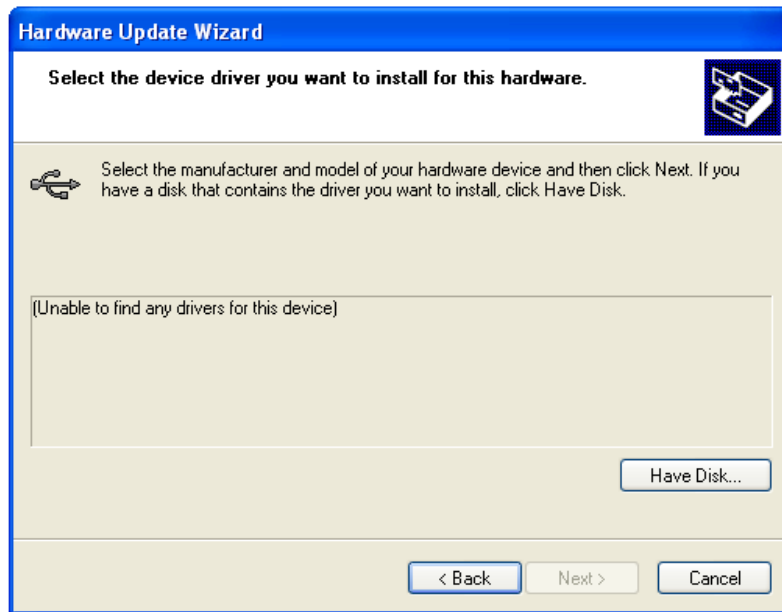

Fig. 50
- Choose “Have Disk” (*Fig. 50*). Browse to file “ftd2xx.inf”, which is in “Driver for single motor controller” (“Driver for three stepper controller”) folder on the CD supplied with the laser.